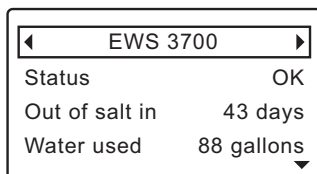

FIG. 52
1. Press the remote's LEFT (◀) or RIGHT (▶) buttons to manually advance to the status screen for the device you want to check. The device name will show in the header. (See Figure 52).